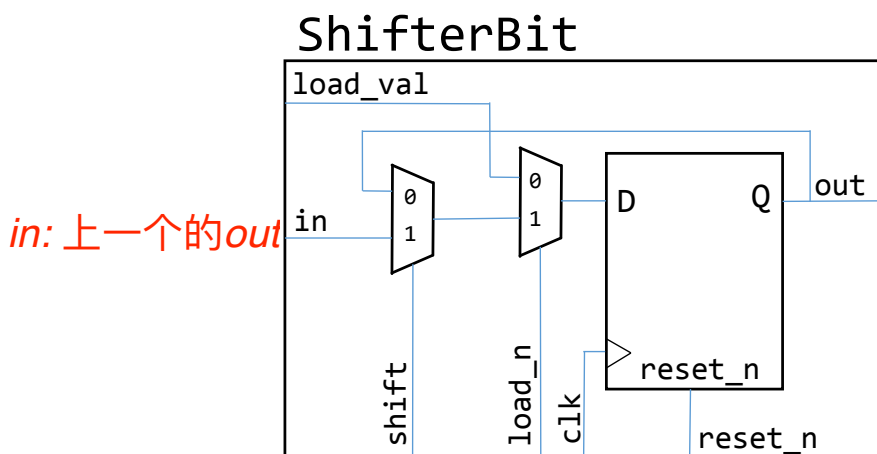
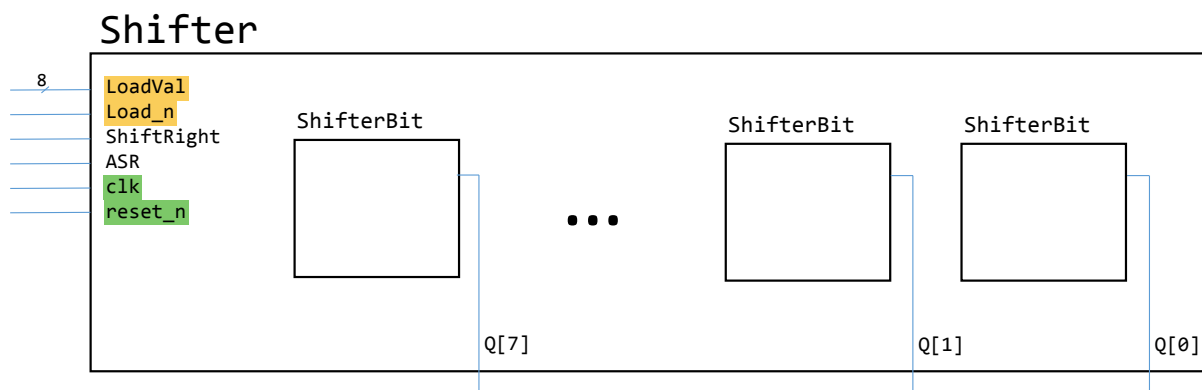

Figure 5: Single-bit shift-register
Figure 6: 8-bit shift-register of Part III. **None** of internal connections are shown here.
In this part of the lab, you will create an 8-bit shift-register that has an optional arithmetic shift. A shift register is a collection of flip-flops that move values sequentially between each other on each clock edge. Figure 5 shows one bit of this shift-register. It contains a positive edge-triggered flip-flop and two multiplexers. To create an 8-bits shift-register, you will use eight instances of the circuit in Figure 5 to design your 8-bit shift-register with optional arithmetic shift and parallel load as shown in Figure 6.
In the Shifter module, create an 8-bit-wide register input `LoadVal`, whose individual wires are connected to `load_val` input of `ShifterBit` instances. Likewise, create an 8-bit-wide output `Q`, which is the output of `ShifterBit` instances. The `shift` input of all eight instances of the circuit in Figure 5 should be connected to the single input `ShiftRight`. The same thing applies to `load_n`, `clock` (`clk`), and `reset_n`.
The `in` input of seven instances should be connected to the `out` port of the instance to its left. For the leftmost `ShifterBit`, you should design a circuit that will perform sign-extension when the signal `ASR` is high (arithmetic right shift) or load zeros if `ASR` is low (logic right shift). This special circuit is not shown in Figure 6.
1. What is the behaviour of the 8-bit shift register shown in Figure 6 when $Load_n = 1$ and $ShiftRight = 0$? Briefly explain in your prelab. **(PRELAB)**
2. Draw a schematic for the 8-bit shift register shown in Figure 6 including the necessary connections. Your schematic should contain eight instances of the one-bit shifter shown in Figure 5 and all the wiring required to implement the desired behaviour. Label the signals on your schematic with the same names you will use in your Verilog code. **(PRELAB)**
3. Starting with the code in Figure 2 for a positive edge-triggered D flip-flop, use this D flip-flop with instances of the *mux2to1* module from Lab 2 to build the one-bit shifter shown in Figure 5. To get you started, Figure 7 is a code snippet that shows how the D flip-flop will be connected to one of the 2-to-1 multiplexers. **(PRELAB)**